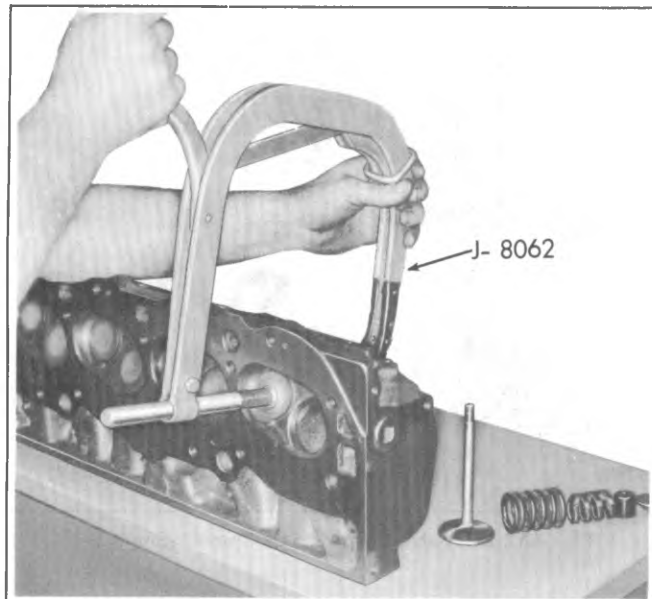

Fig. 6A2-21--Compressing Valve Spring - Typical
2. Using Tool J-8062, compress the valve springs (fig. 6A2-21) and remove valve keys. Release the compressor tool and remove rotators or spring caps, oil shadders (if so equipped) springs and spring damper, then remove oil seals and valve spring shims.
1. Clean all carbon from combustion chambers and valve ports using Tool J-8089 (fig. 6A2-22).